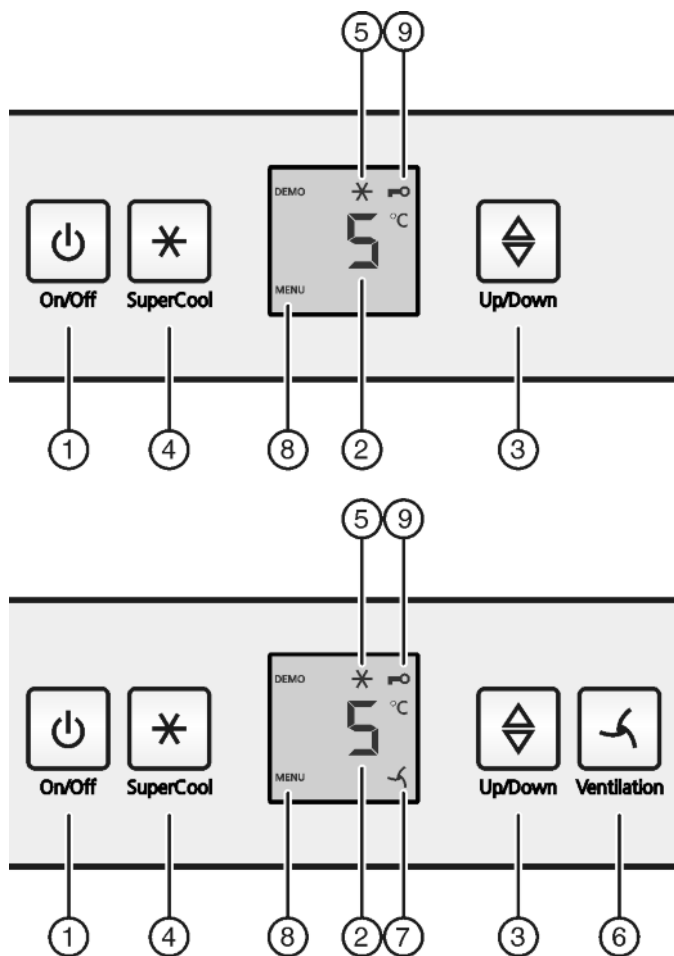

Fig. 2
- ▶ Press the On/Off button Fig. 2 (1).
- ▶ Press the SuperCool button Fig. 2 (4) for about 5 seconds.
- ▷ The Menu symbol is shown on the display, Fig. 2 (8).
- ▶ Confirm briefly with the SuperCool button Fig. 2 (4).
- ▷ The child lock symbol, Fig. 2 (9), lights up on the display.
- ▶ Briefly press the On/Off button Fig. 2 (1).
- ▶ Call up temperature function: press the setting button *Fig. 2 (3)*.
- ▶ Change the temperature in 1 °C steps: Press the setting button *Fig. 2 (3)* until the required temperature is indicated in the temperature display.
- ▶ Briefly press SuperCool button *Fig. 2 (4)*.
- ▷ The SuperCool *Fig. 2 (5)* symbol lights up in the display.
- ▷ The SuperCool symbol *Fig. 2 (5)* goes out in the display.